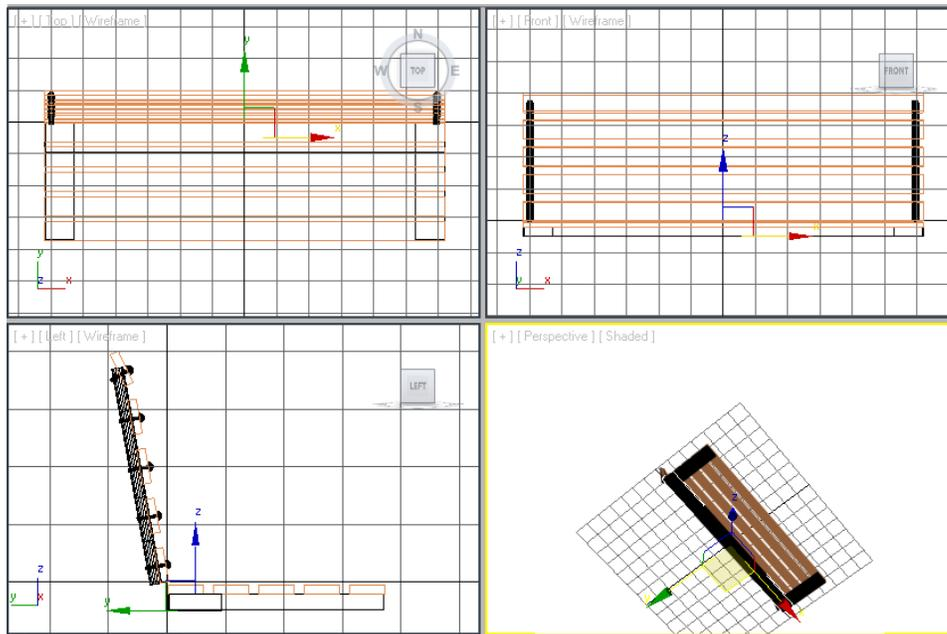

Figure 2-78 Alignment of the leg support003 with the horizontal seat support in all viewports
10. Choose the **Select and Move** tool and align the *leg support003* with the *horizontal seat support* in all viewports, as shown in Figure 2-78.